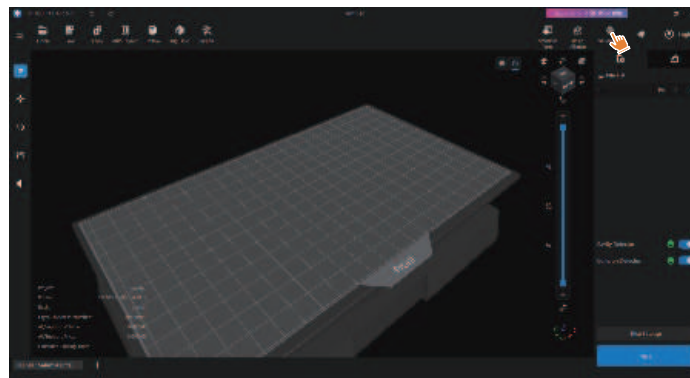

Figure 8: Opening the Network Management Center
1. Open the slicer and click  in the upper right corner to open the **Network Management Center**. The first time, you need to download and install ChituManager (see Figure 8).